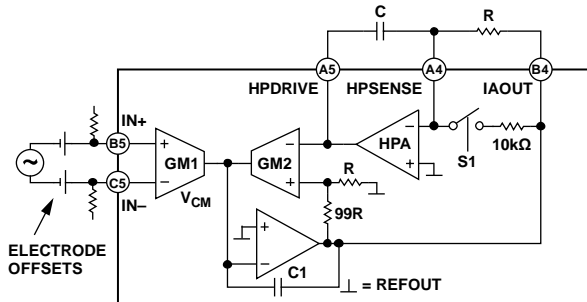

Figure 61. Eliminating Electrode Offsets
To achieve offset rejection, connect a resistor/capacitor (RC) network between the output of the instrumentation amplifier (HPSENSE) and HPDRIVE, as shown in Figure 61.
| Figure 61           | 1            | 2               | Good                    | Large                  | Low                            | Low                           |